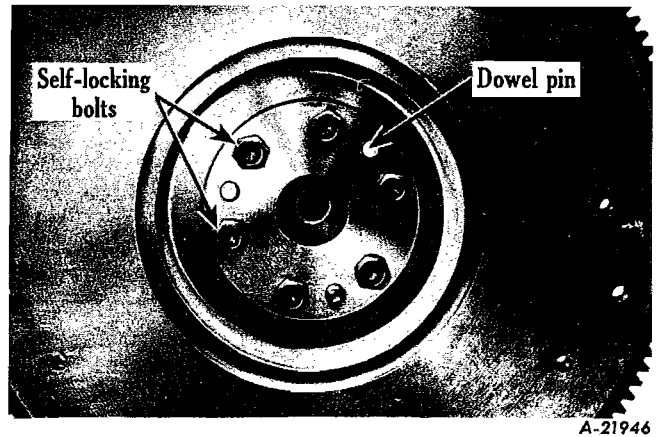

Fig. 30 - Remove self locking capscrews to remove flywheel.
- With crankshaft securely clamped in vise, remove the six self-locking capscrews holding flywheel to crankshaft (Fig. 30). Tap flywheel with a soft hammer to loosen it from crankshaft; remove flywheel with ring gear assembly.